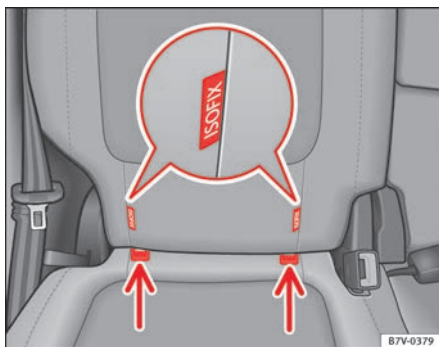

Fig. 27 Version 2: identification of the anchor points for the child seat on the vehicle seat.
- Press the child seat onto the retaining rings ⇒ fig. 27 in the direction of the arrow. The child seat must be safely engaged and click audibly into place.
- Place the child seat on the seat cushion and attach the retaining strap hooks to the retaining rings ⇒ fig. 27.